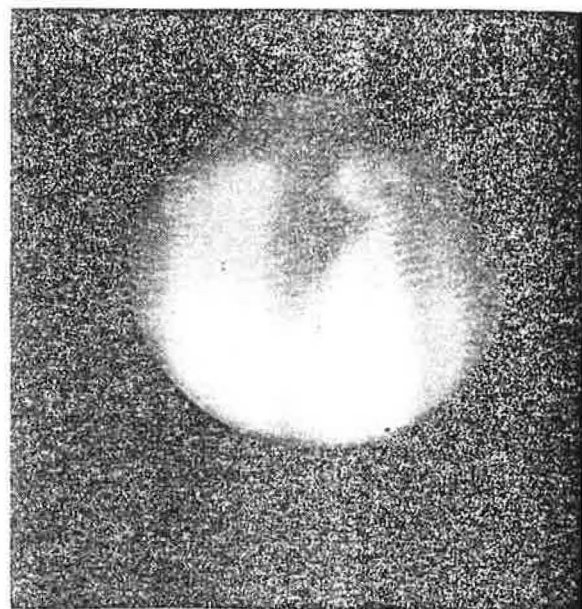
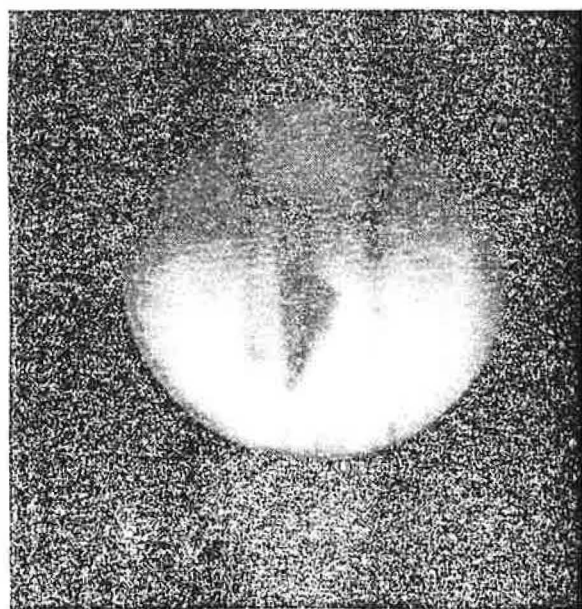

Figure 7. Thermogram of displaced fiber glass.
Figure 8. Same shot with house depressurized reveals more detail.
*Research and development projects:* Thermography enjoys an important role in R&D. Many of the ground-breaking studies by the Center for Energy and Environmental Studies at Princeton University relied heavily on it. More recently the Coalition for Ohio Appalachian Development (COAD) made thermographic inspections an integral part of their mobile-home study. Figures 7 and 8 are thermograms taken from this study. Both are taken of the same area of wall, showing displacement of the fiber-glass insulation. In each case a 23°F temperature difference existed between the inside and the outside wall surfaces, but in figure 8 a blower door, which had been operating for five minutes, greatly enhanced the thermal pattern. Several programs reported that they hope to be undertaking R&D projects in the future, especially to test materials and installation procedures.
Many programs keep a blower door in their bag of tricks, and use it to enhance temperature differences and conduction patterns when weather isn't favorable. (The blower-door depressurization draws outside air in through cracks and voids in a dramatic fashion, as can be seen in Figures 7 and 8.) Used with a blower door, thermography can detect air leakage even with a smaller temperature gradient; usually 5° is sufficient. (Whether outside is warmer or colder than room temperature doesn't matter.)